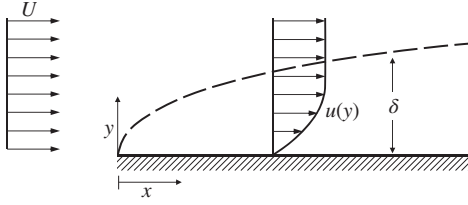

Figure P2.17 Boundary layer velocity profile for constant pressure.
- 2-17.** In fluid mechanics, the boundary layer velocity profile for constant pressure shown in Fig. P2.17 is represented by a quadratic equation $\frac{u}{U} = 2\left(\frac{y}{\delta}\right) - \left(\frac{y}{\delta}\right)^2$ for $0 \leq y \leq \delta$, where U is the incoming flow velocity, δ is the boundary layer thickness, and u is the fluid velocity at height y . This equation is commonly written in terms of the dimensionless relative velocity (u_r) and relative height (y_r) as $u_r = 2y_r - y_r^2$, where $0 \leq y_r \leq 1$.